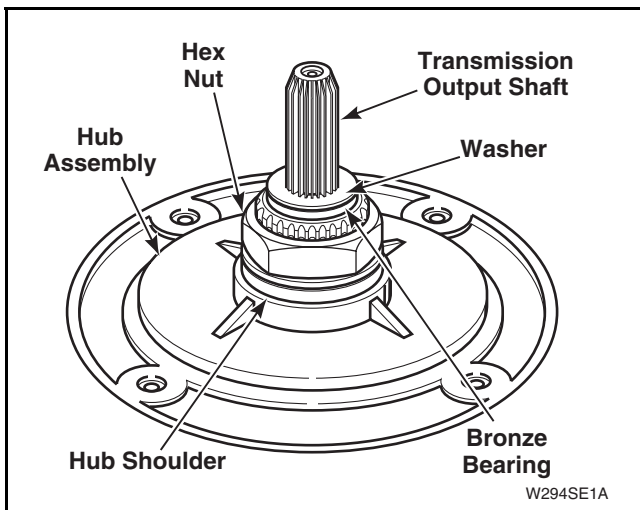

Figure 16
- k. Thoroughly clean all foreign material from seal mounting area of hub assembly, bronze bearing and washer. Refer to *Figure 16*.